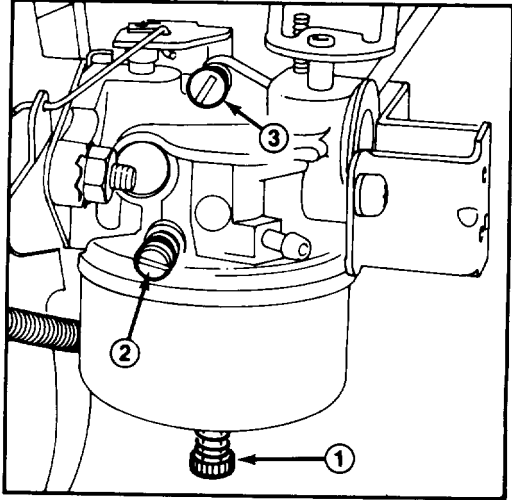

Figure 32
2. Power adjusting screw (Fig. 32) — Close screw by gently rotating it clockwise until a slight seating resistance is felt. Next, rotate
3. Idle mixture screw (Fig. 32) — Close screw by gently rotating it clockwise until a slight seating resistance is felt. Next, rotate idle mixture screw 1½ full turns counterclockwise.
5. Rotate power adjusting screw (Fig. 32) clockwise — in — 1/8 turn at a time until engine misses because of a lean gasoline mixture. Then rotate screw counterclockwise — out — 1/8 turn at a time until engine runs unevenly because of a rich gasoline mixture. Next, rotate power adjusting screw clockwise, back to the midpoint between the rich and lean setting so engine runs smoothly.
6. Move throttle to idle speed. Next, rotate idle speed screw (Fig. 32) until engine idles fast — 1750 rpm.
7. Rotate idle mixture screw (Fig. 32) clockwise — in — 1/8 turn at a time until engine begins to miss because of a lean mixture. Then rotate screw counterclockwise — out — 1/8 turn at a time until engine runs unevenly because of rich mixture. Next, rotate idle mixture screw clockwise, back to the midpoint between rich and lean setting.
8. Again, rotate idle speed screw (Fig. 32) until engine idles at 1750 rpm.